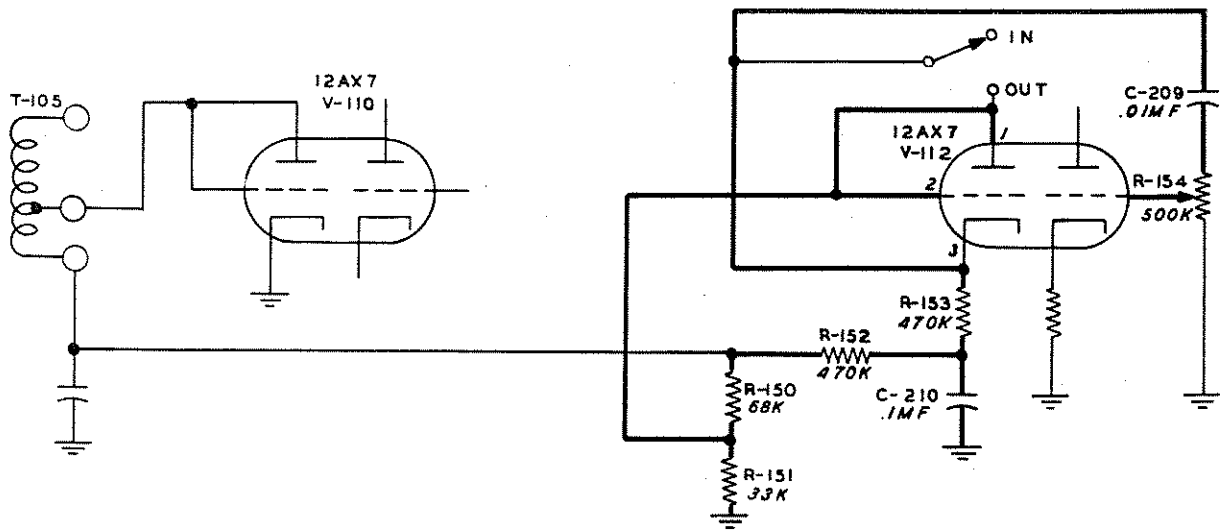

Figure 4-4. 51J-2 Noise Limiter Circuit
4.2.10. NOISE LIMITER. - A series type noise limiter is used in the 5LJ receiver. This limiter employs one-half (pins 1, 2, and 3) of a type 12AX7 dual triode tube, V112. Refer to figure 4-4. Due to a-c loading of the second detector heavy noise impulses are automatically clipped from the positive audio peaks in the detector. The noise appearing on the negative side of the audio cycle is clipped by the